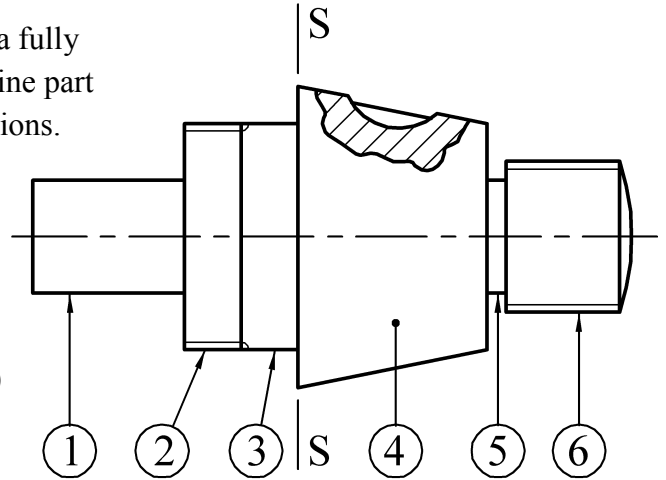

Fig. 4(a)
4. (a) Using the data table below, make a fully dimensioned drawing of the machine part in Fig. 4(a), showing all specifications. Use SS as a datum.